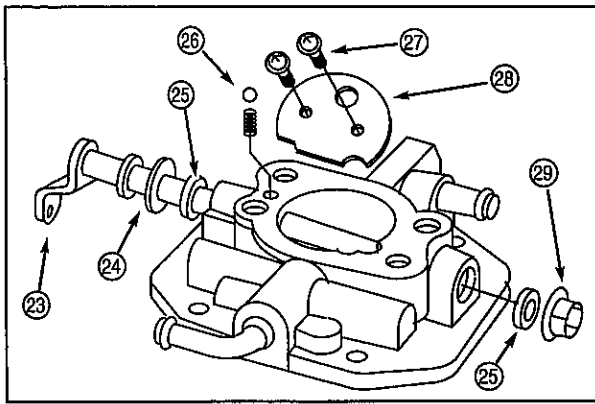

Fig. 103
14. Mark choke plate before removal to ensure re-installation in the original position. Top and bottom edges are beveled. Remove screws (27) and choke plate (28), Fig. 103.
15. Remove retainer (29).
16. Remove choke shaft (23) and spacer (24).
17. Remove seals (25).